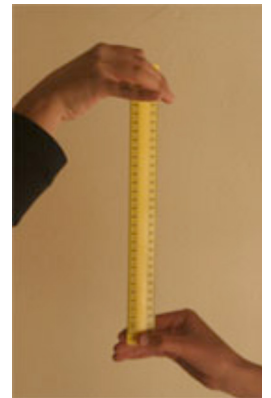

Figure 1.
- Dropper: Position the zero centimeter mark (0.0 cm) of the ruler so that it is level with the top of the catcher’s open fingers. See Figure 1.